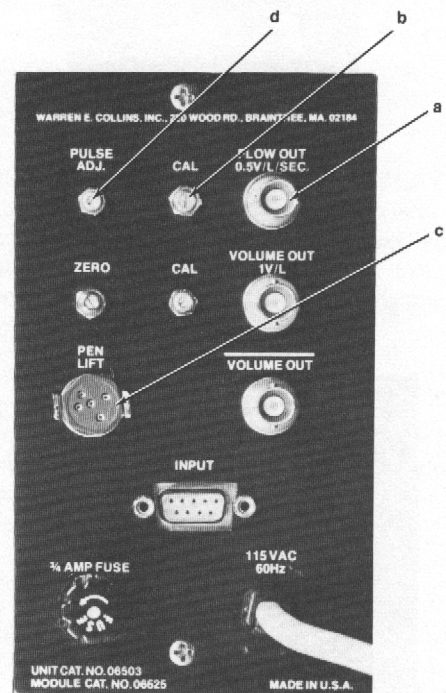

Figure 9 - Flow-Volume Module - Rear Panel
A.6. Flow-Volume Module - Rear Panel (Figure 9)